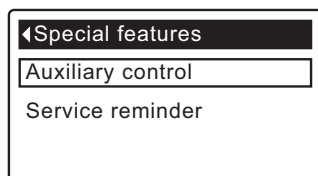

FIG. 74
1. From any of the rolling status screens, press the SELECT (O) button to display the **Main menu**.
3. Press the SELECT (O) button to display the Advanced settings menu.
5. Press the SELECT (O) button to display the Special features menu (See Figure 74).
9. Press the SELECT (O) button. The display will go back to the Special features menu (Figure 74).